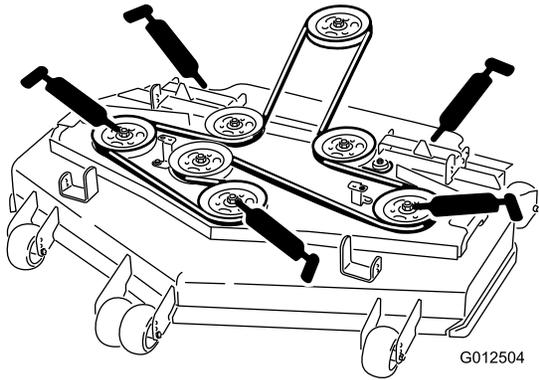

Figure 33
6. Grease the three spindle bearings until grease comes out (Figure 33).
7. Grease the fittings on the push arms (Figure 33).